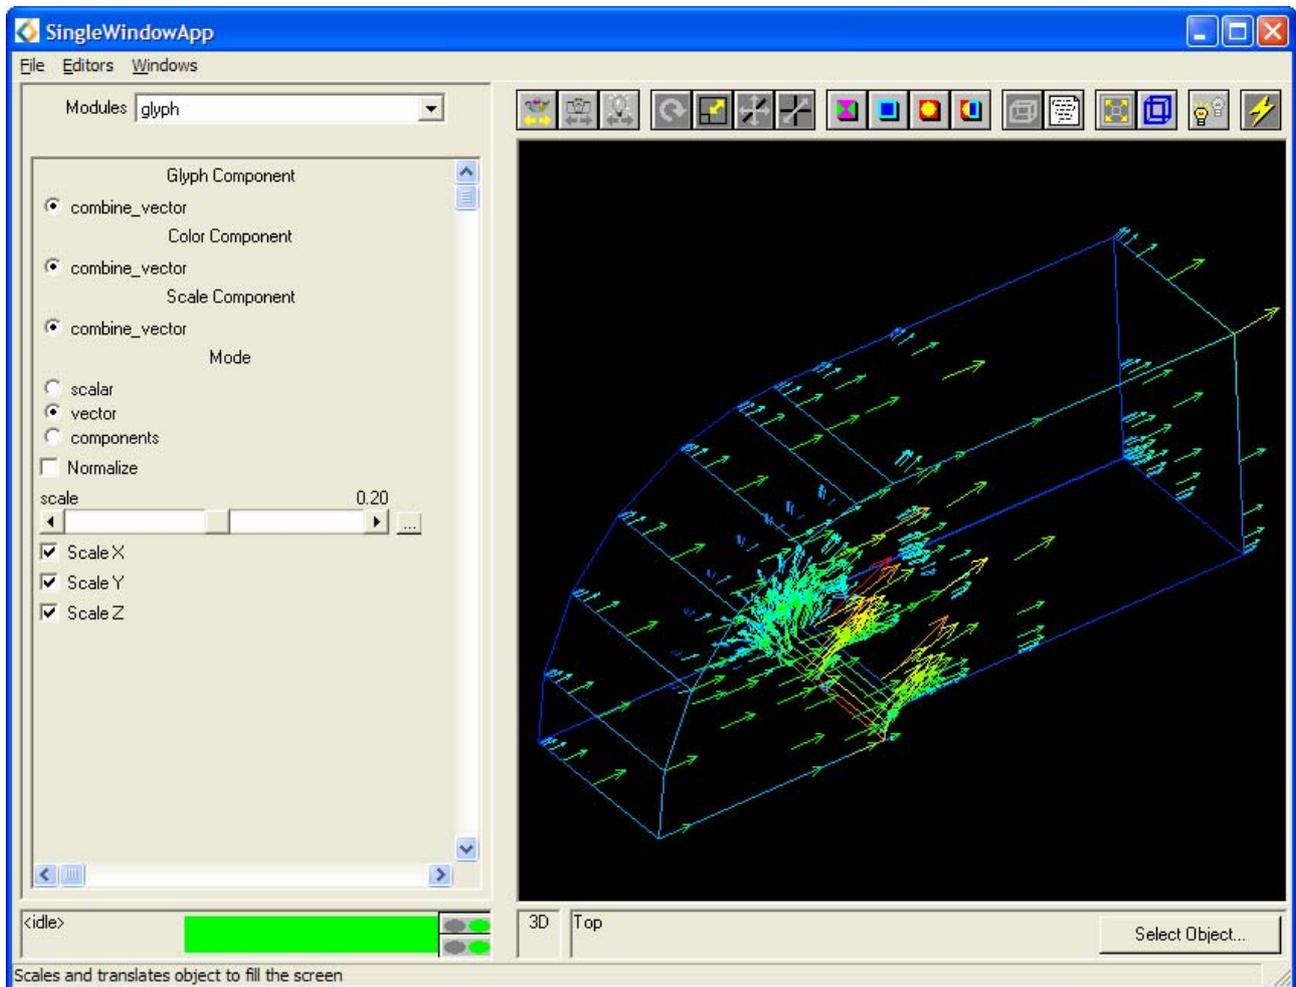

Figure 5.12: glyph Editor Panel and its Result
- The image obtained should be similar to that shown in Figure 5.12.